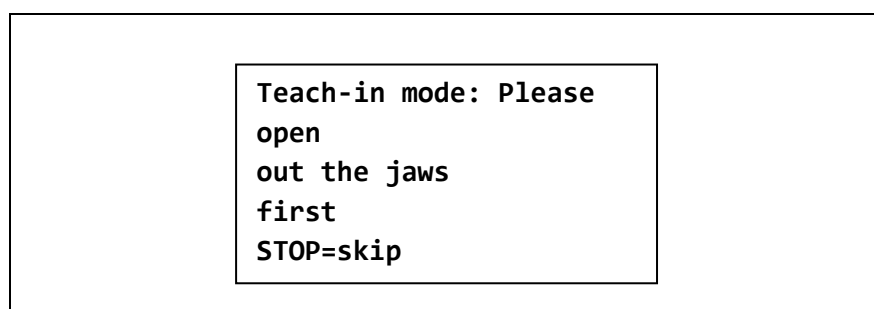

Figure 19 LCD display at the start of the teach-in mode
1. Actuate the right key switch button briefly (min 0.4 s). On the LCD display, the instruction as shown in Figure 19 appears. The left and right "open" buttons flash.